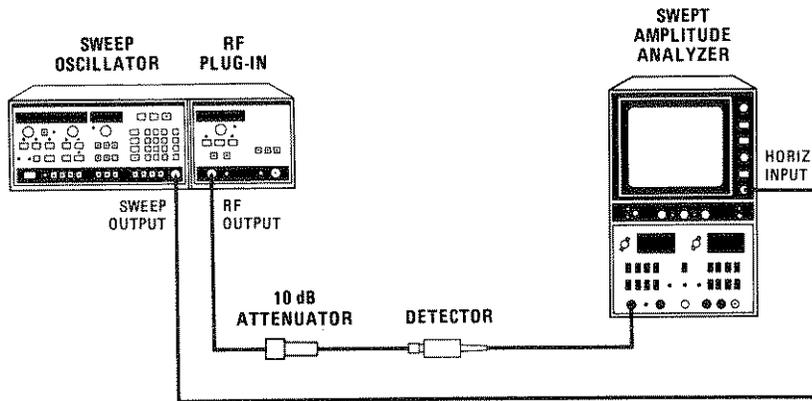

Figure 5-28. Power Sweep Adjustment Test Setup
1. Connect equipment as shown in Figure 5-28. Select 8350A MOD .